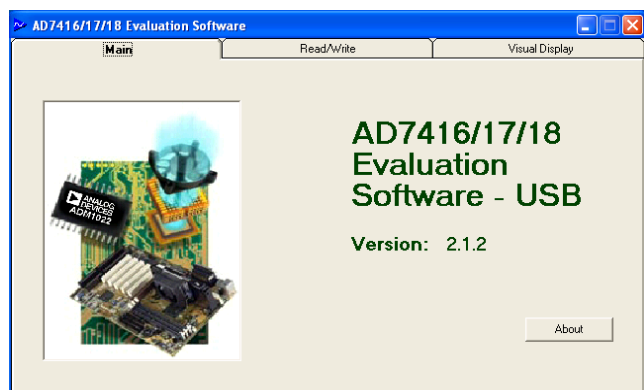

Figure 7. Evaluation Software Main Window
1. From the **Start** menu, click **Programs > Analog Devices > Launch AD741x Evaluation Software**. The main window of the software then displays, as shown in Figure 7.
When the software starts running, it searches for hardware connected to the PC. A dialog box indicates when the evaluation board attached to the PC is detected, and then the main window appears (see Figure 7).